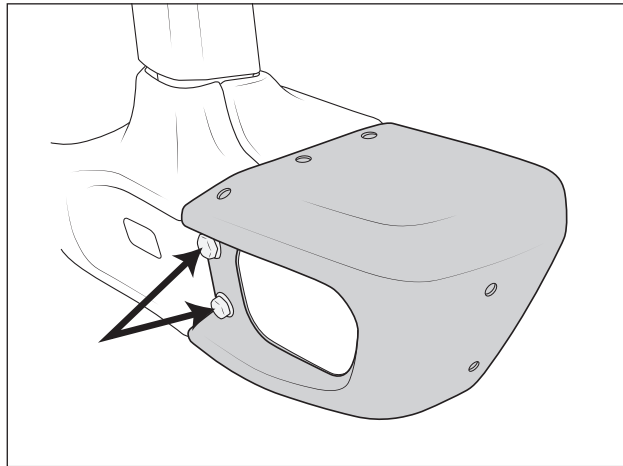

Figure 23
- D. Carefully install corners over center section and loosely bolt in place with silver M12x35mm hex bolts and washers in the upper and center holes (next to fog light) (fig. 23). Do not install bolts in bottom holes yet.